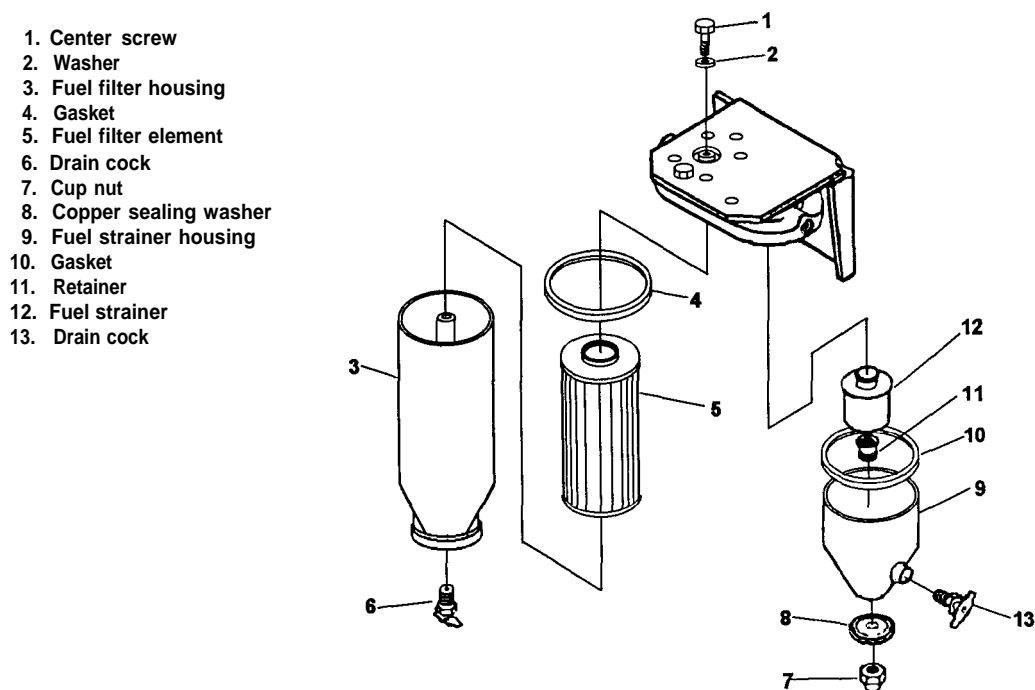

Figure 4-16. Fuel Strainer and Filter Housing, Disassembly and Reassembly
- (1) Remove center screw (1, Figure 4-16) and washer(2) to remove fuel filter housing (3) and gasket (4). Discard gasket.
- (2) Withdraw filter element (5) from housing and discard.
- (3) Do not remove drain cock (6) unless replacement is necessary.
- (4) Remove cup nut (7) and sealing washer (8) to remove strainer housing (9) and gasket (10). Discard gasket. Do not remove drain cock (13) unless replacement is necessary.
- (5) Remove retainer (11) to remove strainer (12).
- (1) If removed, install drain cock (13), (Figure 4-16).
- (2) Install strainer (12) and secure with retainer (11) finger tight.
- (3) Install replacement gasket (10) and housing (9) and secure with sealing washer (8) and cup nut (7). Tighten nut securely to prevent leaks.
- (4) If removed, install drain cock (6).
- (5) Install replacement filter element (5) into housing (3).
- (6) Install replacement gasket (4), housing (3), washer (2), and center screw (1). Torque screw to  $17\pm 2$  lb-ft.
- (7) Close drain cocks on strainer and filter housings.